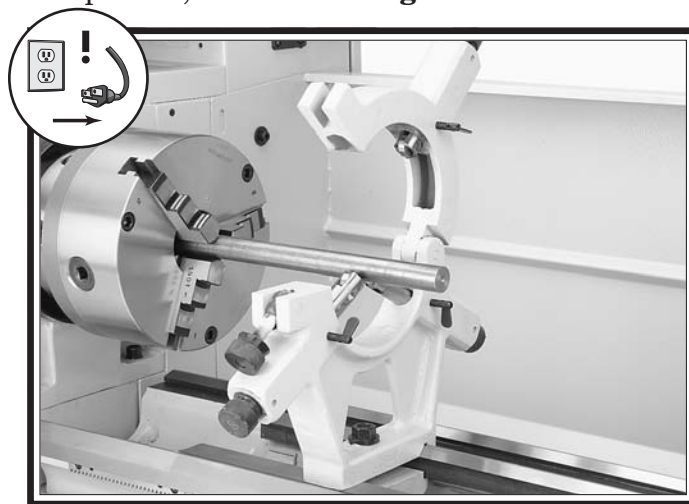

Figure 56. Workpiece mounted in the steady rest.
4. Loosen the clamp knob that secures the two halves of the steady rest and open the top portion, as shown in **Figure 56**.
6. Use the finger adjustment knobs to position the bottom two finger rollers against the workpiece, as shown in the example of **Figure 56**.